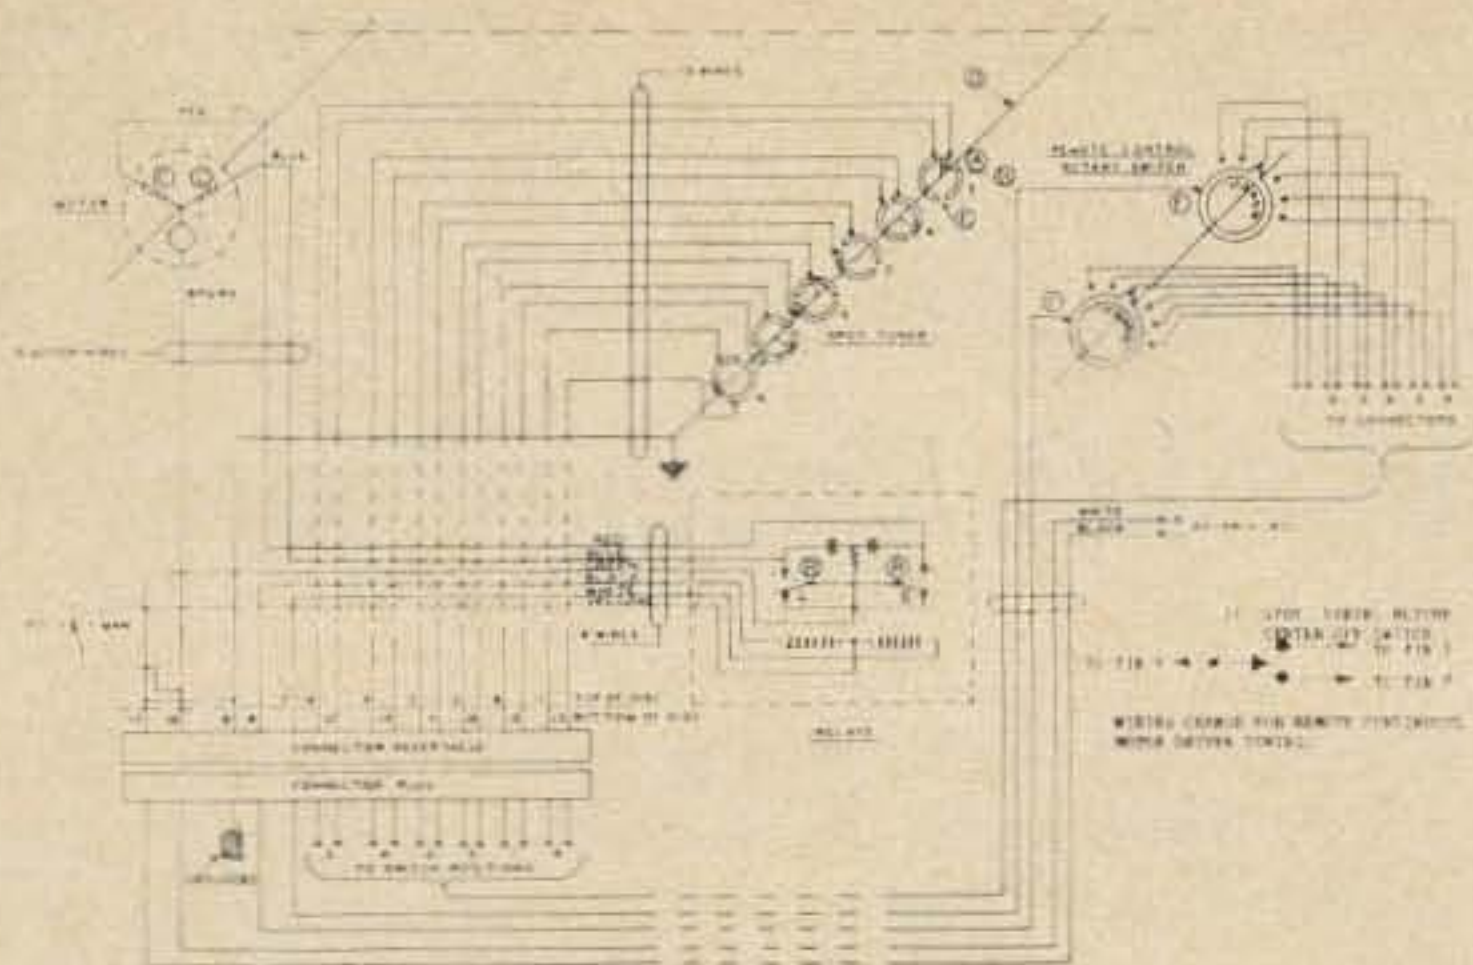

Fig. 1. Schematic diagram of the C-131/AR automatic selector mechanism.
The schematic diagrams of the drive assembly and the remote selector switch are shown in Fig. 1. Circuit elements referred to in the following discussion are keyed in the diagram by circled letters. The unit contains six selector disks with contact segments (A) separated by gaps (E). The angular position of the gaps controls the setting of the receiver tuning capacitor, and the position of each disk may be set by a front panel screwdriver adjustment. Contact arms (B) are mounted on a common shaft (D) which is geared to the motor drive. Direction of motor rotation is determined by the motor winding (C) selected by the relays (R). The two contacts of the remote control switch associated with each of the six positions are wired to corresponding segments (A) of the six selector disks.
For operation from a 12 volt dc source, the relays in the C-131/AR unit must be adjusted. Remove the cover and decrease the armature spring tension of the relays until they operate reliably on 12 volts. If spot frequency reception is desired, wire a six position, two gang switch to the unit as shown in Fig. 1. Connect the auto battery "hot" lead to Pin 17 of the receptacle and the ground return to Pin 16. Make no connection to Pin 9. Polarity is not important; while direction of rotation will change, the system will still work.
If continuous remote tuning is desired, delete the remote selector switch and associated wiring. Connect battery to Pins 16 and 17 of the connector and wire a spdt, center off, spring return switch as shown in the Fig. 1 inset.